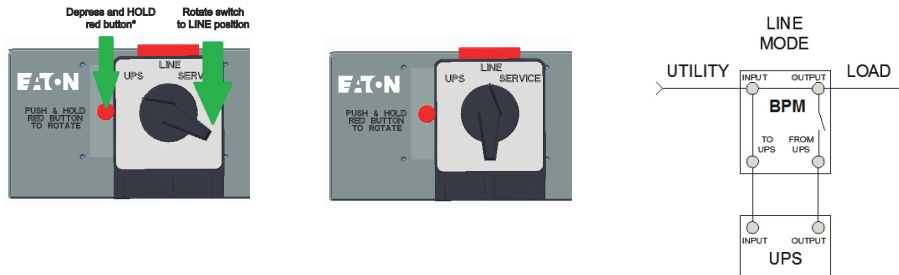

Figure 19. From UPS to LINE
1. Press and hold the red button and turn the switch to LINE (see Figure 19).
1. Press and hold the red bar (see Figure 19).